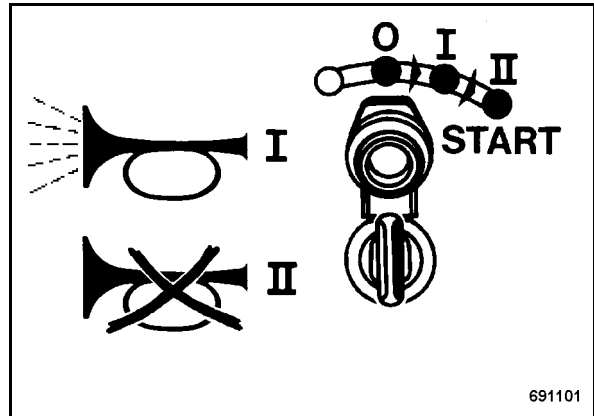

Fig. 20
- Turn the ignition key to position "I" (Fig. 20), the warning buzzer sounds.